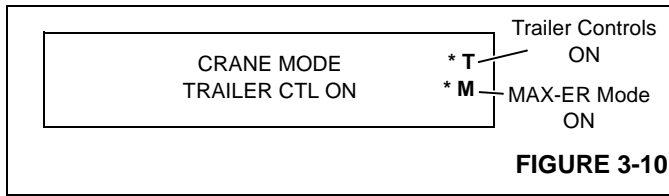

FIGURE 3-10
7. Then turn key counterclockwise and release to confirm TRAILER CTL OFF mode. Screen shown in Figure 3-10 appears.